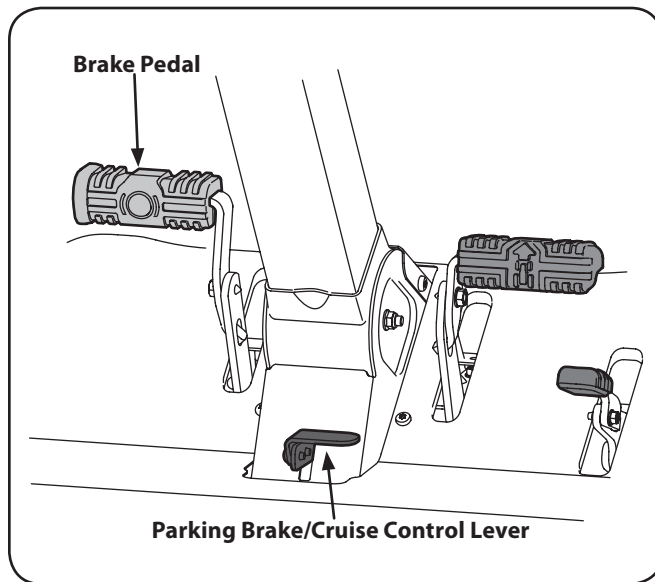

Figure 5-1
2. Engage the parking brake by pressing forward on the brake pedal (○), then press down on the parking brake/cruise control lever and then release the brake pedal (○). Refer to Figure 5-1.
3. Make certain the PTO switch is in the disengaged (down) position. Refer to Figure 5-1.